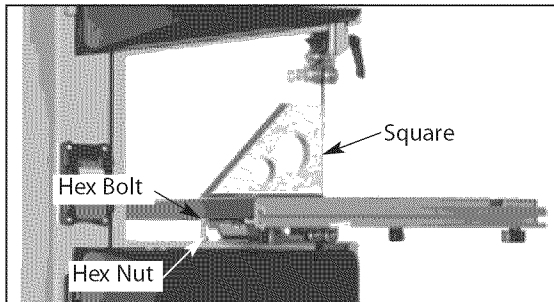

Figure 4 - Square Table to Saw Blade
Refer to Figures 4 and 5.
- Using a wrench, release the hex nut on the frame (see Figure 4).